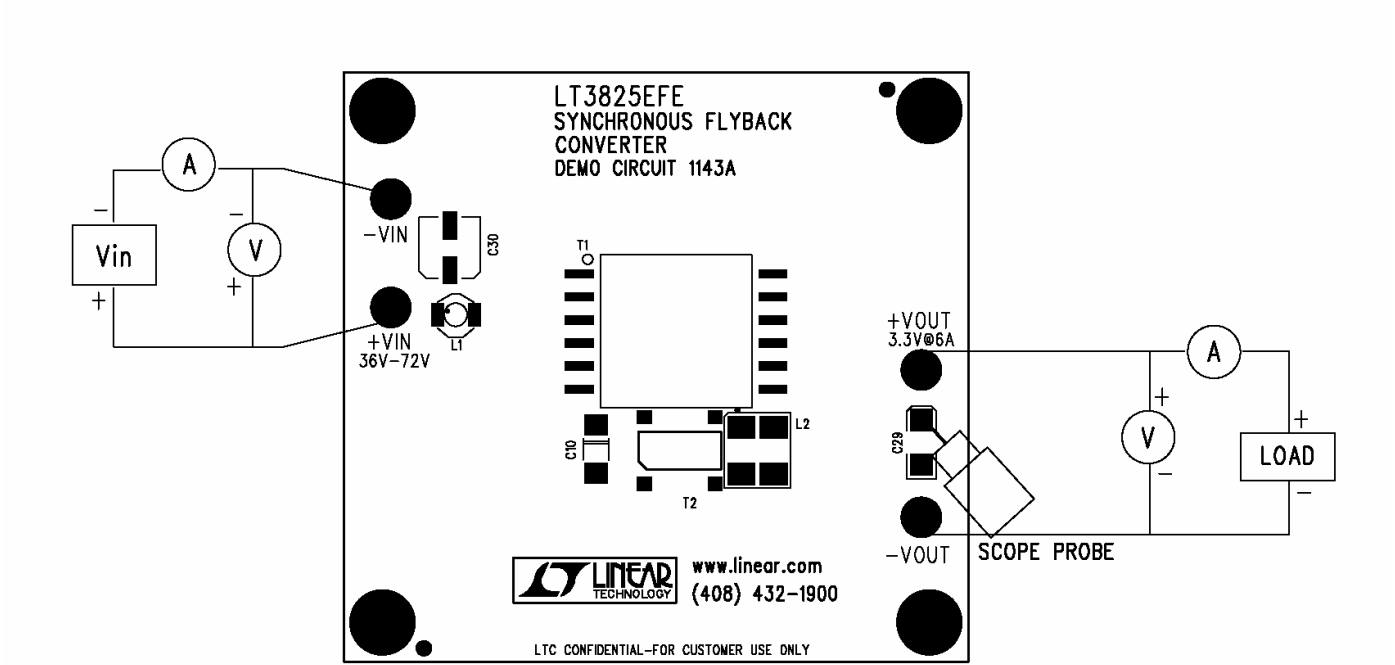

Figure 1. Proper Measurement Equipment Setup
Demonstration circuit 1143 is easy to set up to evaluate the performance of the LT3825. Refer to Figure 1 for proper measurement equipment setup and follow the procedure below:
**NOTE.** When measuring the output voltage ripple, care must be taken to avoid a long ground lead on the oscilloscope probe. Measure the output voltage ripple by touching the probe tip and ground ring directly across the last output capacitor (C29) as shown in Figure 1.